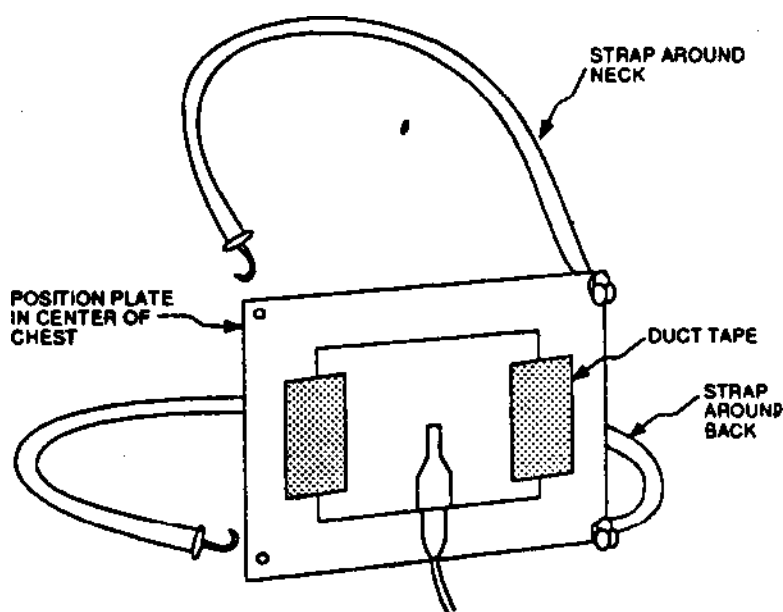

Fig. 4. Chest mount for a PZM.
***On a drummer's chest.** Chris Altizer devised a chest mount to place a PZM on a drummer's chest (Fig. 4). The PZM picks up the set as the drummer hears it — all the toms, snare, bass drum, and cymbals. Altizer says, "In small clubs, or on large outdoor stages, one PZM beats ten regular mics for convenience any day in my book."